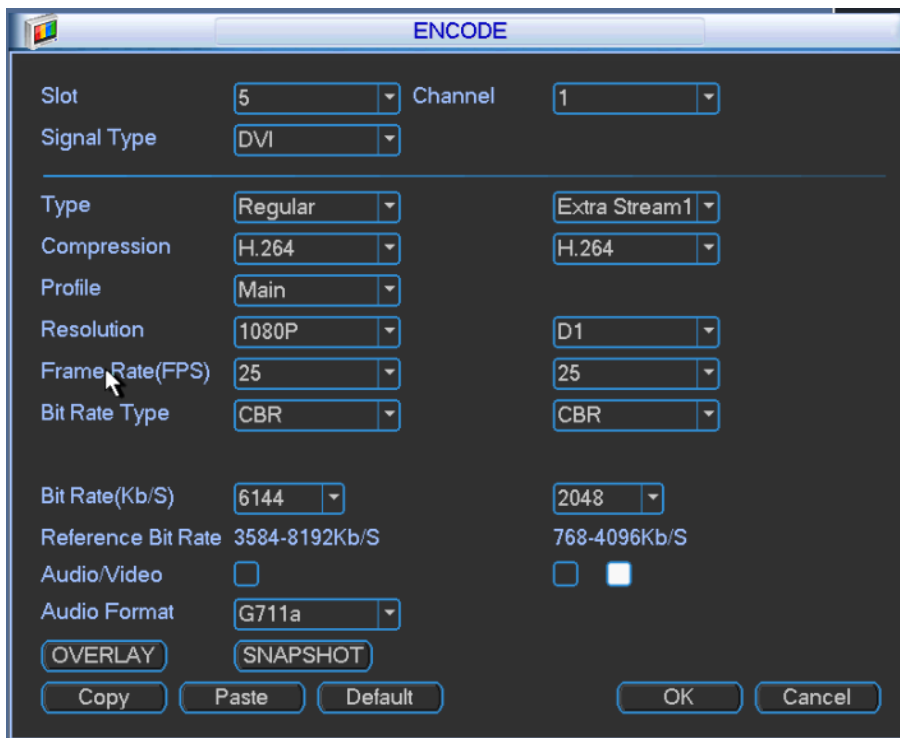

Figure 3-32
Step 1 In main menu, select "Setup>Encode", and the system displays "Encode" interface, as shown in Figure 3-32.